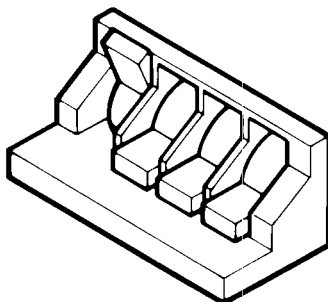

Figure 1: Address setting of 0
1. Make sure the address switch on the back of your disc drive is set at 0. Figure 1 illustrates the appearance of the address switch when the address is set at 0.